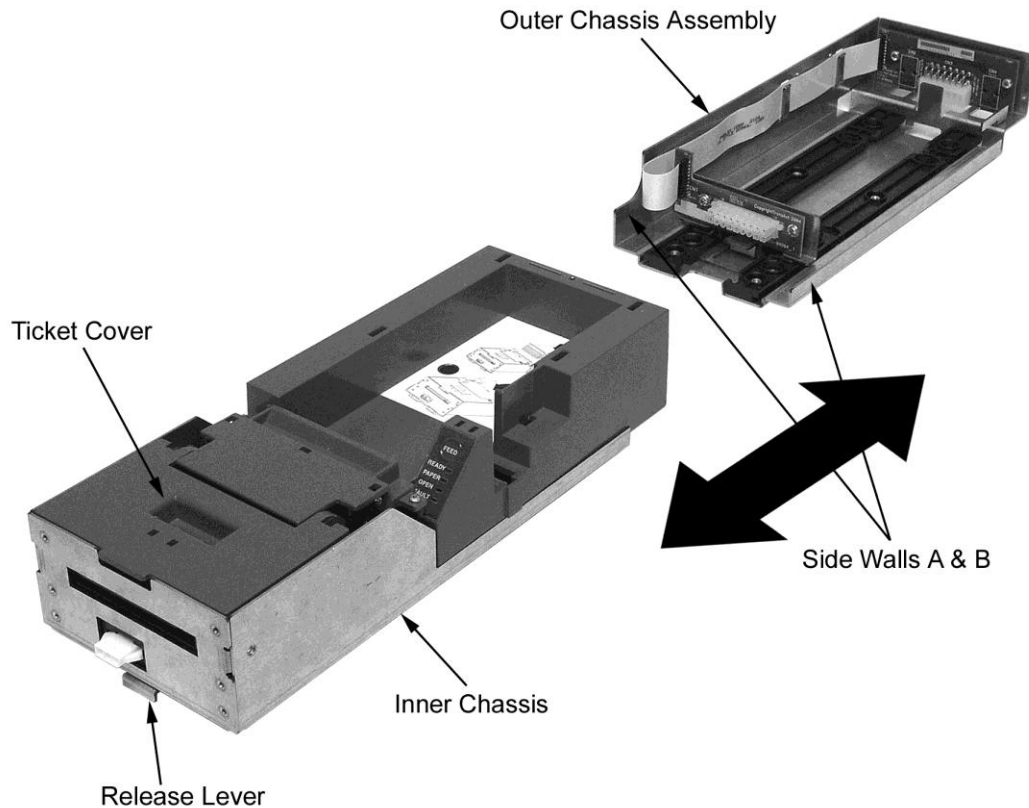

Figure 2: Racking/Unracking the Inner Chassis
- Align the base of the Inner Chassis with the outer walls of the Outer Chassis, seating it within sidewalls A and B as shown in Figure 2.